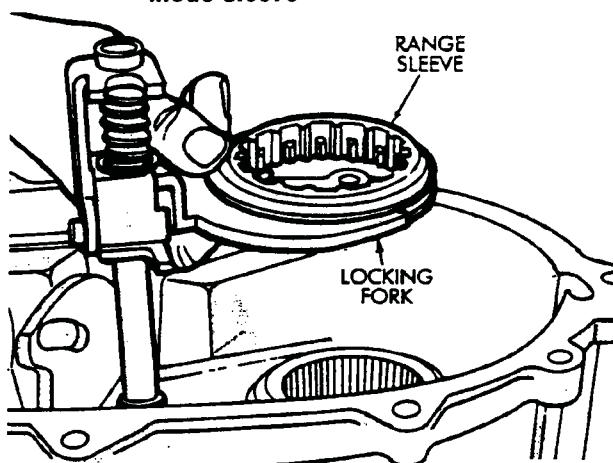

Fig. 4-16 Remove Locking Fork and Range Sleeve
21. Remove locking fork, range sleeve, fork brackets and fork springs as assembly (Fig. 4-16). Note component position for reference and disassemble for cleaning and inspection .